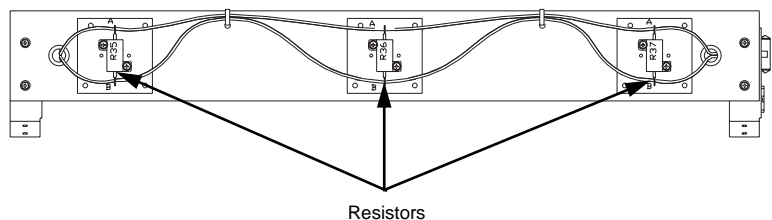

Figure 4.3.20: Fan Failure Detection Resistors
5. Locate the resistor to be replaced and unsolder the connected wires. Note how the wires are connected for reassembly (see Figure 4.3.20). Remove the two screws securing the resistor and remove it from the panel.
6. Place the new resistor on the panel and secure with two screws. Torque to 6.0 lb-in (0.7 N•m). Resolder the wires as illustrated in Figure 4.3.20.